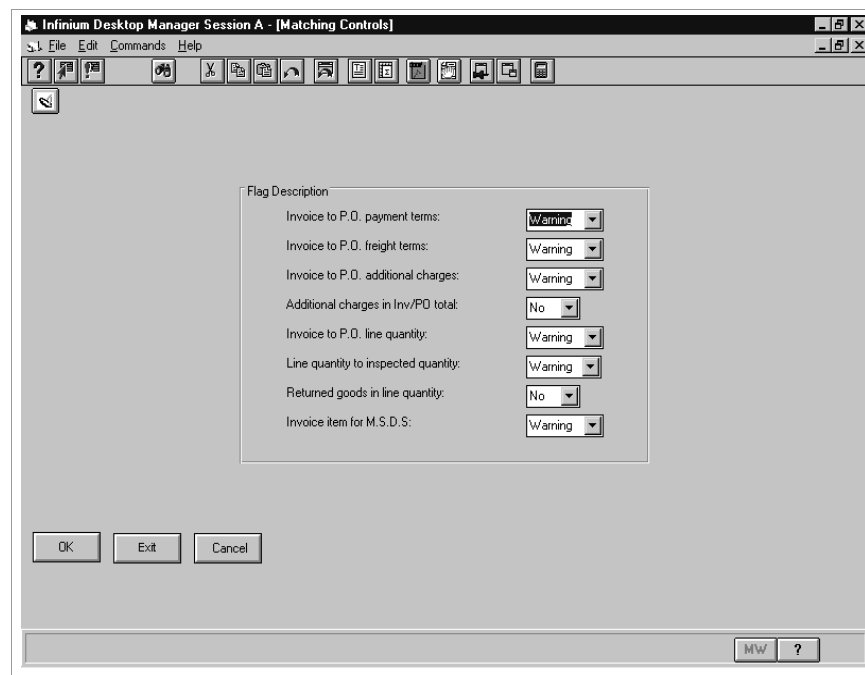

Figure 2-4: Matching Controls screen
- 2 Select *Work with matching controls [WWMC]*. The system displays a screen similar to Figure 2-4.